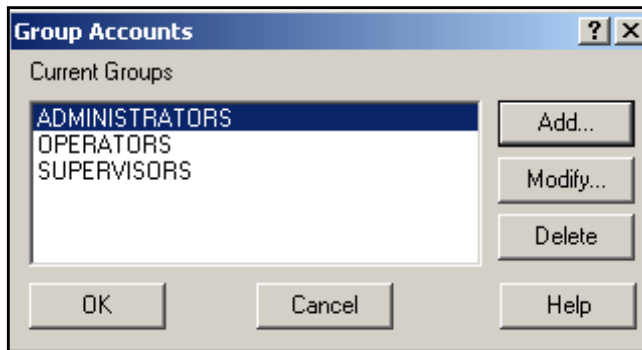

Figure 25: Group Accounts Window
2. From the Security Configuration window, go to the **Edit** menu, and click on **Group Accounts**. The Group Accounts window (Figure 25 below) opens.